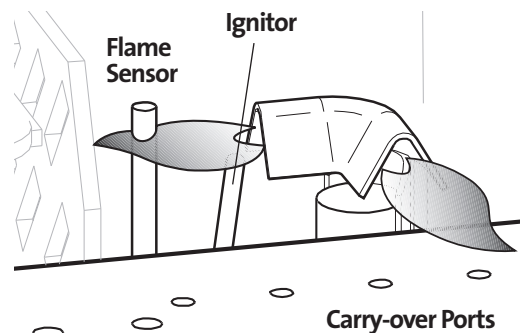

Figure 36. Correct Pilot flame pattern.
5. **PILOT FLAME:** The pilot flame should be steady -not lifting or floating. The flame should be blue in color around the pilot hood, with traces of yellow toward the outer edges. It is important that the pilot flame engulf the top 1/8" of the flame sensor. The pilot flame should project out of the pilot hood 1" from both ports extending to reach the burner plate ports. See fig. 36. The pilot flame can be tuned by turning the adjustment screw located on the front of the valve. See fig. 20.